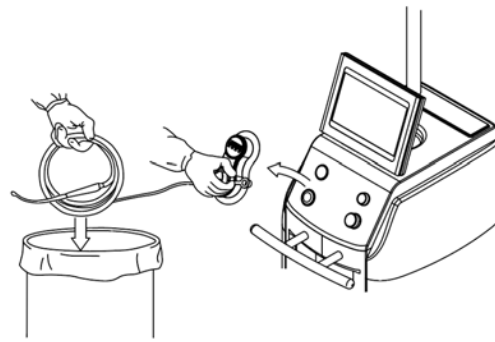

Figure 32 To Remove Manifold and Tubing
- e. Properly dispose of the used manifold and attached suction tubing always maintaining the manifold in a horizontal orientation (Figure 32).